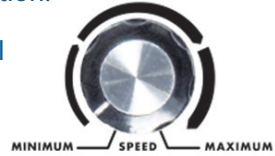

Figure 10
- b. Place the “top” of JUGS onto the shaft of the base assembly. (Figure 10).
2. Position the speed dial pointer on the control panel at MINIMUM (Figure 10).
13. Increase the speed of the pitch by turning the dial clockwise (Figure 10.)
- e. Increase the speed of the ball by turning the dial clockwise (refer to Figures 10 and 11).